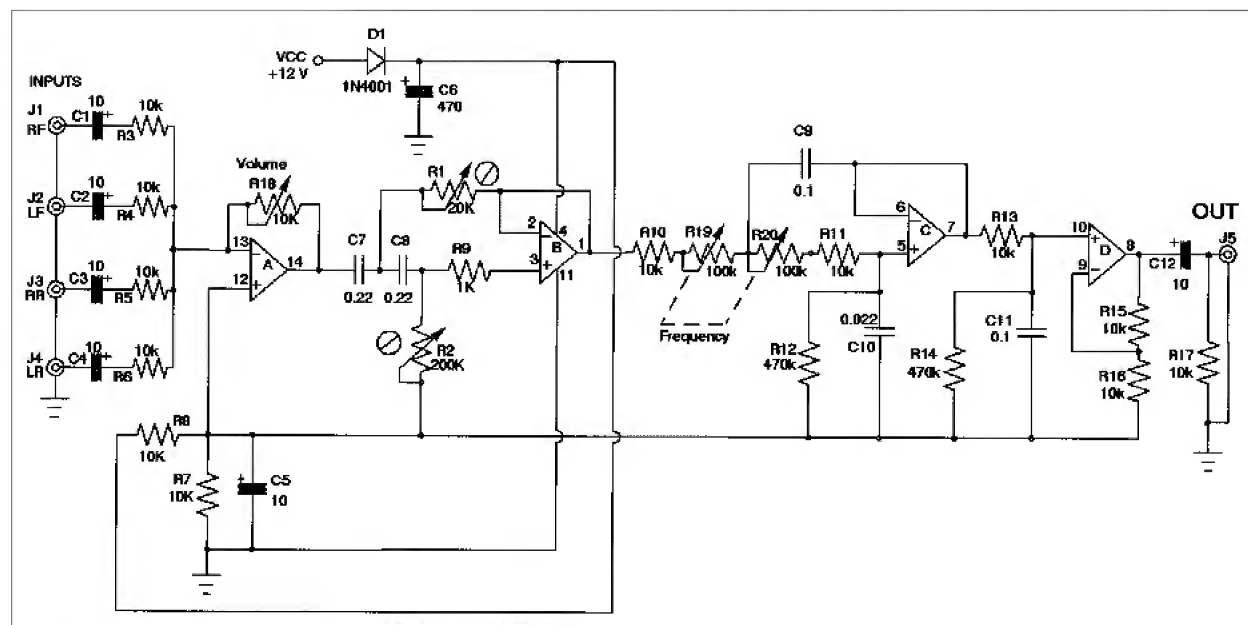
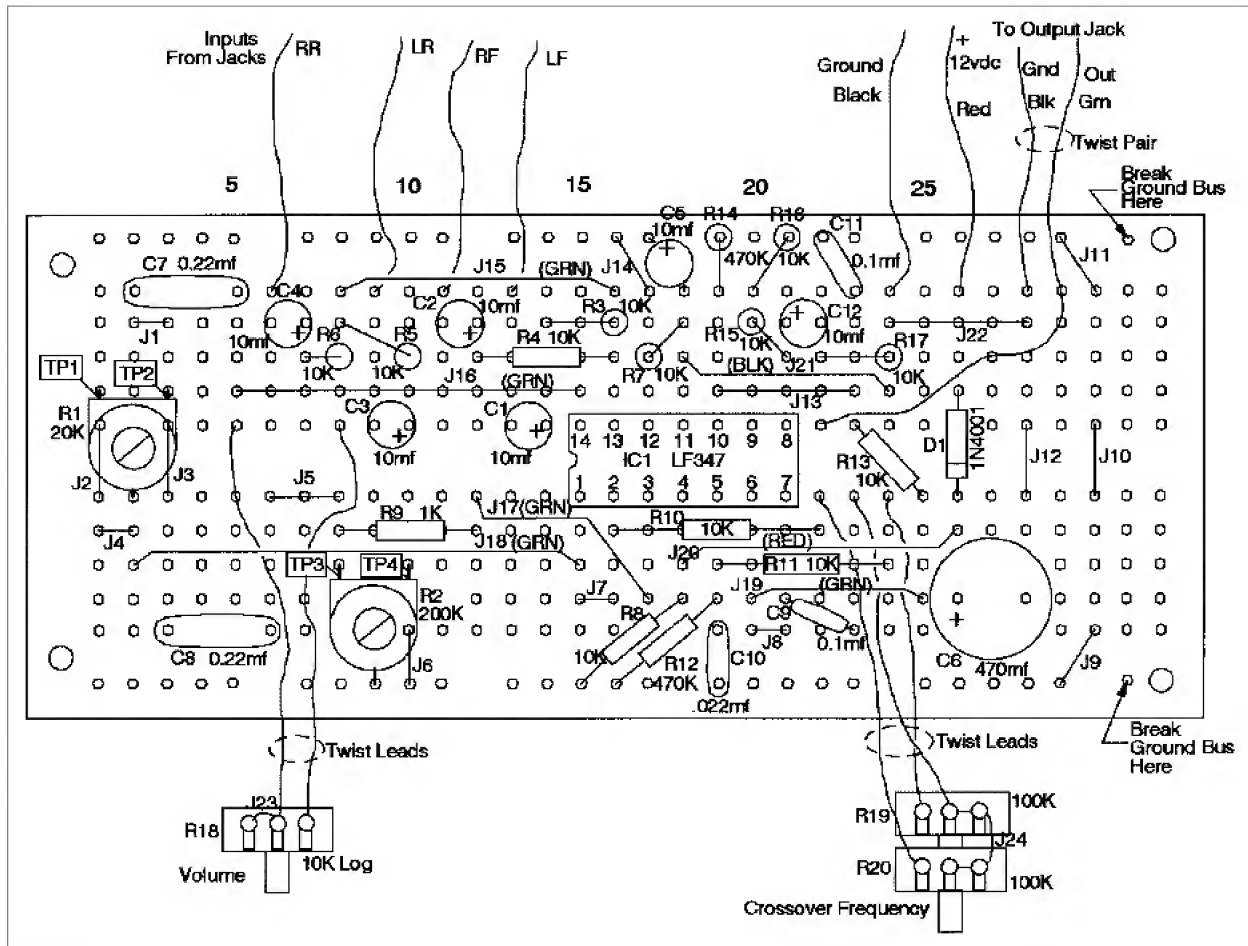

Figure 7-1 Subwoofer filter schematic.
Figure 7-2 PC board pictorial diagram.
The filter schematic diagram is shown as Figure 7-1, and an enlarged drawing of the actual circuit board layout is shown as Figure 7-2. The circuit employs a high-performance quad op amp chip to perform all of the functions and can be one of several different types. I chose the LF-347, although the TL084 is an acceptable substitute. The circuit is fairly easy to build in spite of its apparent complexity, and a number of people across the country have successfully built it. For those of you who find the task too formidable or just are not inclined, a fully assembled and tested unit made from high-quality components is available from the author (dferg1000@aol.com) for approximately \$100.
Referring back to Figure 7-1, op amp A sums all the inputs with pot R18 setting the gain of this section from 0 to 1.0. You can use either two or four inputs, depending on your particular hookup, and the order of the input connections has no importance.
1. In order to fit the circuit board into the cabinet, you must first cut off approximately 2 in from its right end. (See Figure 7-2.) Using a fine-toothed hacksaw, carefully cut across the board at line 35. To avoid splintering the board, support it on a flat surface and position the hacksaw blade *parallel* to the board surface while cutting. File all edges smooth.
11. Wire the potentiometers as shown in Figure 7-2. The view shown is looking down at the pots with their solder lugs facing up. Begin by cutting appropriate lengths of bus wire; then install jumpers J23 and J24. Secure the jumpers by soldering them at each terminal not shared with a lead wire. Then cut five pieces of assorted color stranded wire to 6-in lengths, strip one end, and wire and solder to the potentiometers. After soldering to the pots, pull wires together and trim to make all three lengths about $3\frac{1}{2}$ in. Strip the new ends evenly and twist carefully. The completed pots: